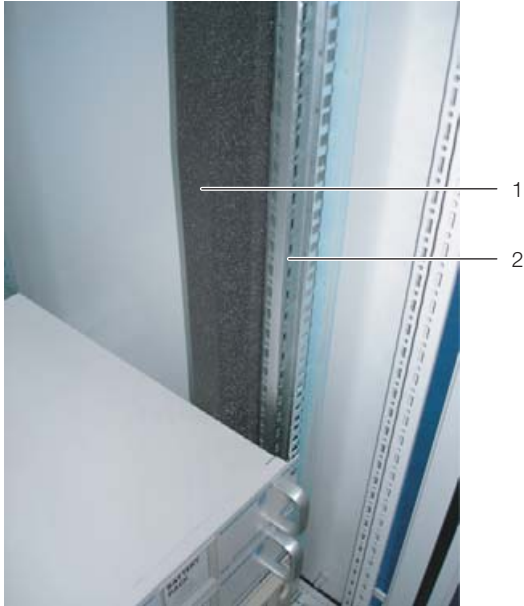

Fig. 22: Foam strip on a server rack support
- Fasten the wider (Model No. 3301.370 / 3301.320) of the two foam strips from the Liquid Cooling Package accessories from outside onto one of the front supports of the server rack (fig. 22). Make sure to install this strip on the side of the server enclosure onto which the Liquid Cooling Package is to be bayed.
- **If you are only baying the Liquid Cooling Package on one side:** Fasten the narrower (Model No. 3301.380 / 3301.390) of the two foam strips from the Liquid Cooling Package accessories from outside onto one of the front supports of the server rack (fig. 22). Make sure to install this strip on the side of the server enclosure which will again be sealed by a side panel.